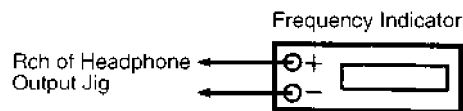

Figure 3
1. Connect the frequency indicator to the R-ch of the headphone output jig (Figure 3).